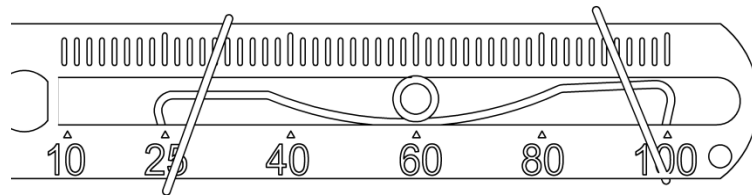

Figure 15. Feedback lever B and driving pin connection
- For feedback lever A, hold the linear stroke mounting bracket⑦ against the actuator. Plug the head of feedback lever⑤ into the U-shaped rod①. For feedback lever B, insert the driving pin⑩ into the fixed spring in the slot of the feedback lever B, as shown in Figure 15. Make the valve main stem and feedback lever are at right angle. If it cannot be at right angle, install according to the actual situation.